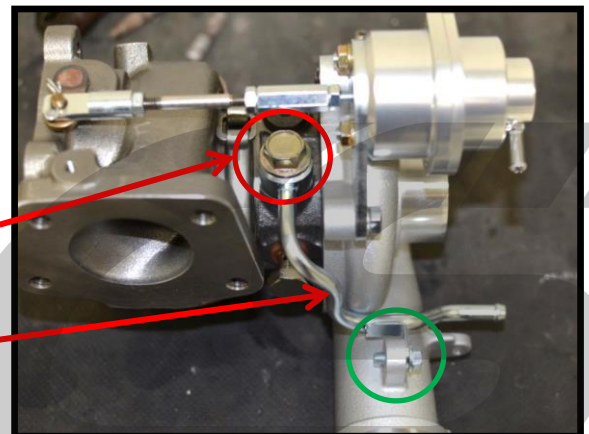

Figure 10b
- c) Install the provided upper coolant line with the OEM 17mm banjo bolt and new provided copper crush washers and **Torque to 20 ft-lb.** Shown with the **red circle** in **Figure 10b**. Install the M6 16mm flange bolt provided. Shown with the **green circle** in **Figure 10b**. Also shown in **Figure 10c** on next page with a front view of the turbo.